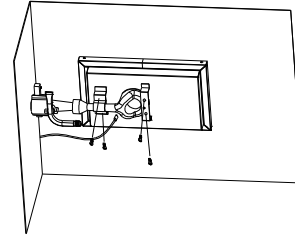

Figure 7
3. Replace "U" brackets with four screw(DO NOT TIGHTEN, MAKE SURE HOSE IS NOT BENT). (Fig.7). Then align & tighten knob seat & valve stem with 2 screws & washers